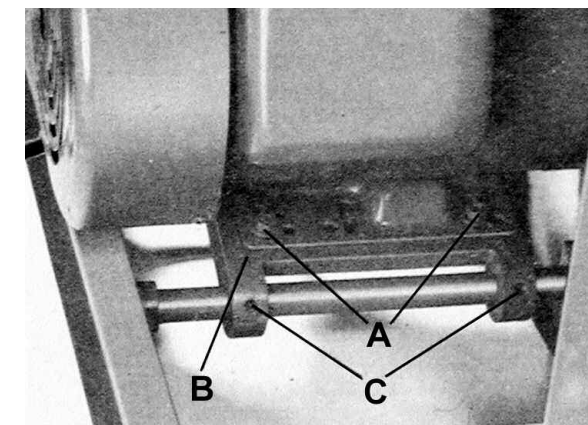
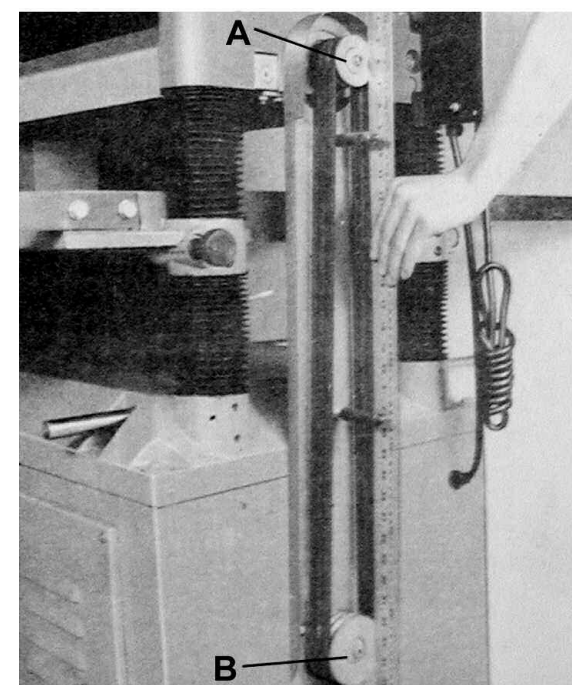
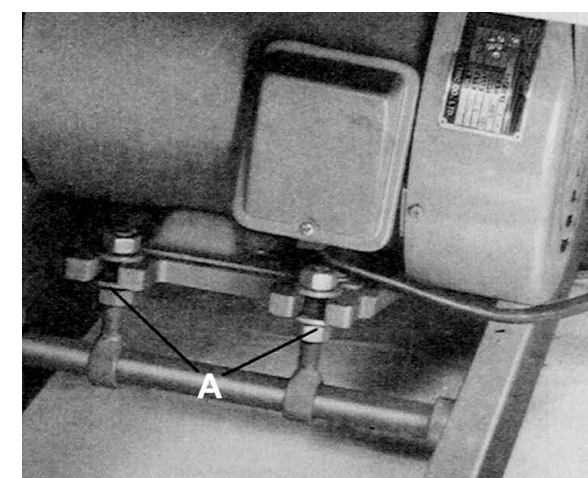

FIGURE 5
FIGURE 7
FIGURE 8
1. Assemble the motor to the motor mounting plate, as shown in Fig.5.
NOTE : It is very important that the motor be mounted to motor plate by using the mounting hardware (A) Fig.5.
3. Using a straight edge, align the motor and cutterhead pulleys as shown in Fig.7, the motor plate (B) Fig.5 can be moved for alignment by loosening the set screws (C) in the motor plate (B) as shown in Fig.5.
4. Assemble the belts to the two pulleys, as shown in Fig.7. and adjust for the proper belt tension by raising or lowering the motor plate, as shown in Fig.8, then tighten the nuts (A) Fig.8. Correct tension is obtained when there is approx. 6mm (1/4") deflection of the center span of the pulleys by using light finger pressure on each belt.